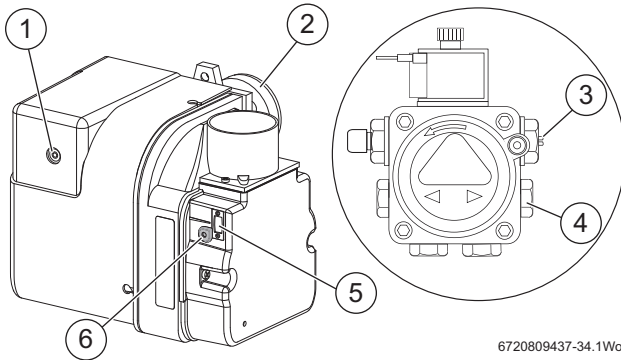

Fig. 51
- ▶ Check for after-spurting from the nozzle, indicated by oil saturation on the combustion head [2] figure 51.
- ▶ Remove the burner, combustion head [2] figure 51 and electrodes, hold the burner vertical to unscrew the nozzle and fill the nozzle holder with kerosene.
- ▶ Refit nozzle, electrodes, combustion head [2] figure 51 and the burner.
- ▶ Check the CO₂ levels and adjust the air shutter [6] figure 51 setting according to the table opposite.
i If the flue gas temperature is too high and the baffles are correctly fitted, then reduce the oil pump pressure [3] figure 51, 5-10 p.s.i. to compensate for nozzle variations. If the pump pressure has been changed, the CO₂ levels must be rechecked and air shutter adjusted if necessary.
- ▶ Refit the blanking plug [4] figure 51.
- ▶ Recheck the CO₂ levels and if required, adjust the air shutter setting [6] figure 51 to obtain the correct CO₂ level.